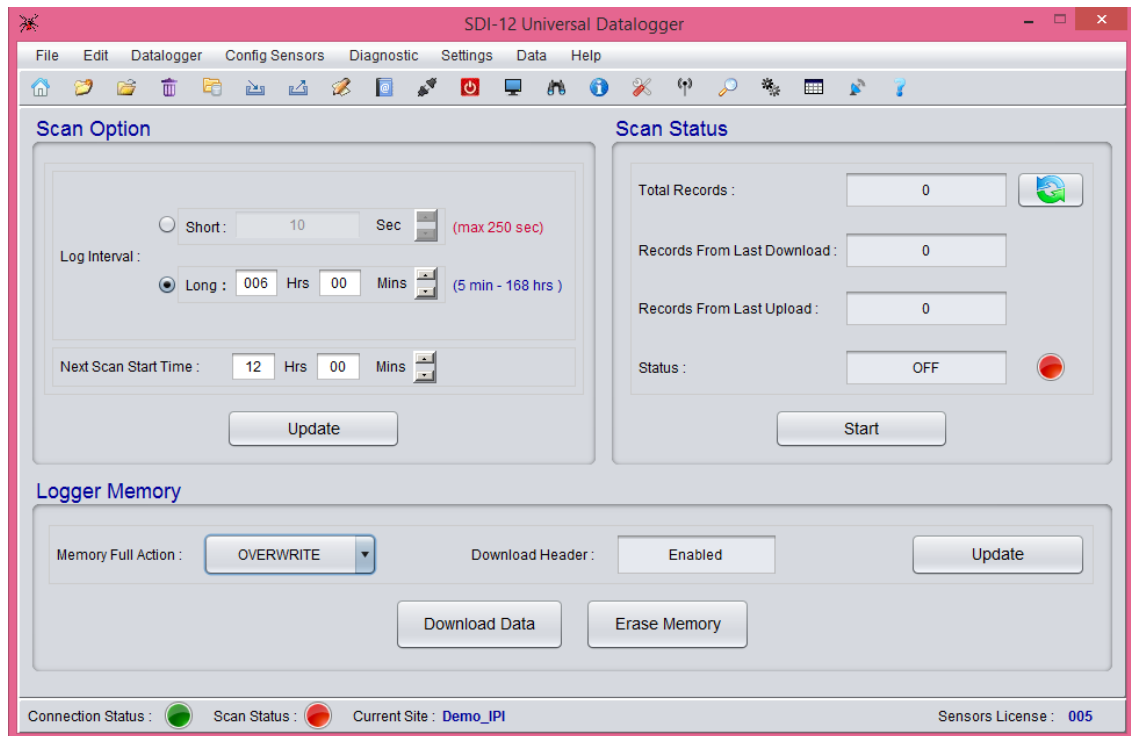

Figure 44 Configuring scan setting in Scan window
1. Set “Scan Option” as required and click “Update” (figure 44)